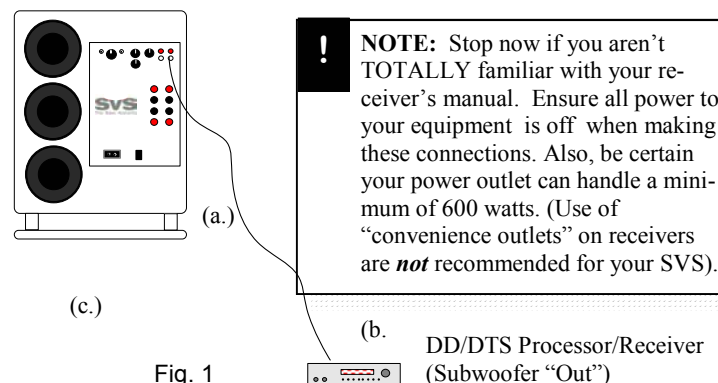

Fig. 1
**Location.** They say it's *all* about location right? It's the same with setting up your subwoofer. So, where to put it? **Go for a corner** if you can, and avoid putting your sub where it might adjoin large open areas. Studies have shown the deepest and flattest bass response is typically attained when a subwoofer is placed within a few feet of one of your room's corners. Whether you put the sub in front or to the rear of your seating area usually makes surprisingly little audible difference. Deep movie and music bass, like that from Dolby Digital (DD) "5.1 channel" DVDs and digital audio is largely non-directional. You can't tell where it is coming from, even though you can hear, and feel it.
**Hook-up** (see Fig. 1). There are a variety of ways to configure your new sub. Usually, a simple mono, shielded 75 Ohm A/V RCA type cable (a.) is used to take the subwoofer output of your DD/DTS surround sound receiver (b.) and feed the low-level input of the sub's amp. There is no need to "split" the signal going to the sub (c.). You can feed either one of the two amp inputs, it doesn't matter, right or left.